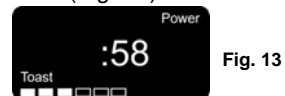

Fig. 13
6. The timer will count down from 58 seconds. (Fig. 13)